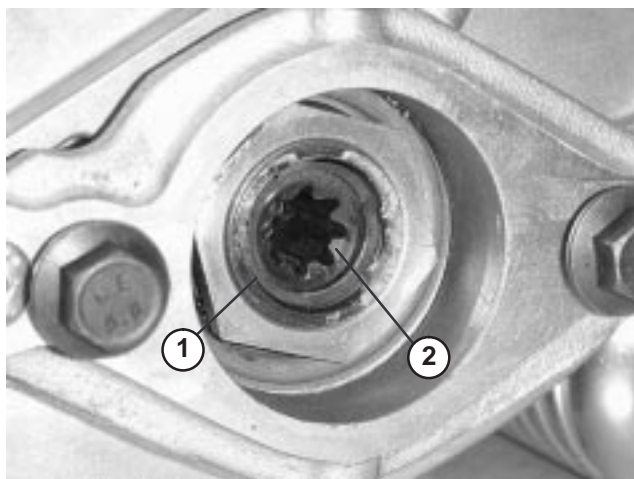

Figure 7
3. Allen head screw (2)
- D. Remove the snap ring securing the drive coupler in the reel tube (Fig. 7). Remove the drive coupler.